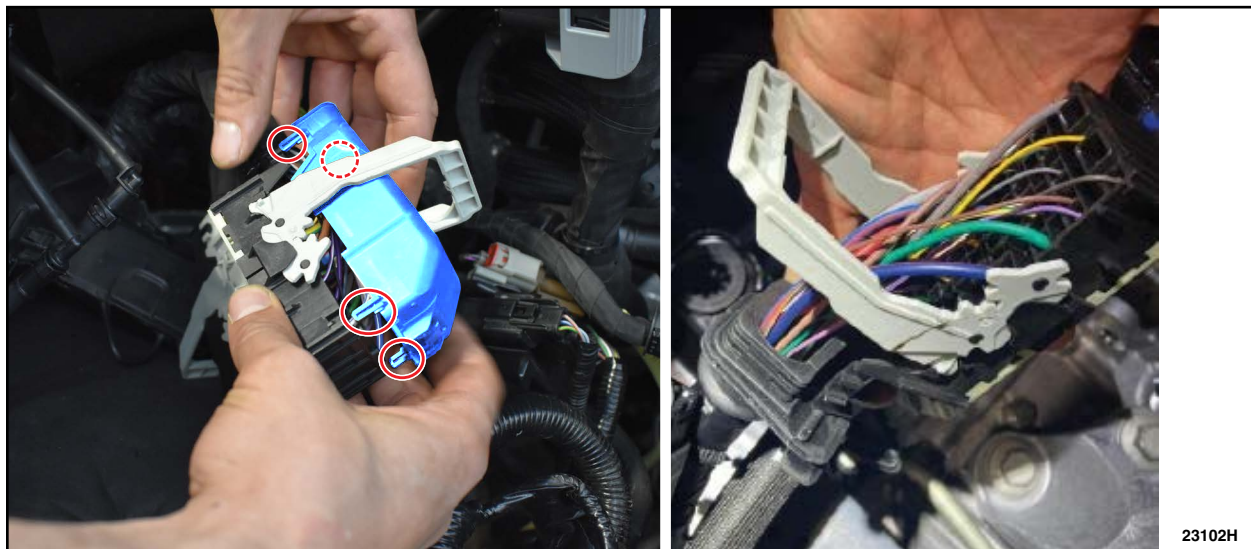

FIGURE 8
11. Remove the back shell from the C1035A connector. There are a total of 4 tabs that will need to be released. See Figure 8.